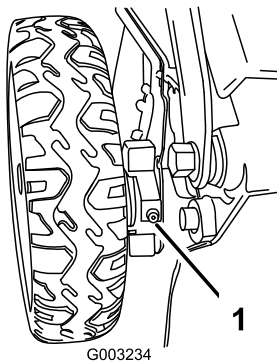

Figure 35
1. Wipe the grease fittings just inside the rear wheels with a clean rag (Figure 35).